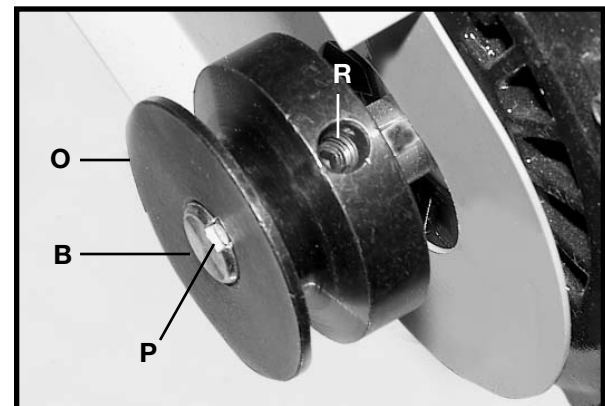

Fig. 14
6. Attach the motor pulley (O) Fig. 14 to the motor shaft (B) with the hub of the pulley in the "in" position. Insert the key (P) in the keyway of the motor shaft. Tighten the set screw (R) in motor pulley.